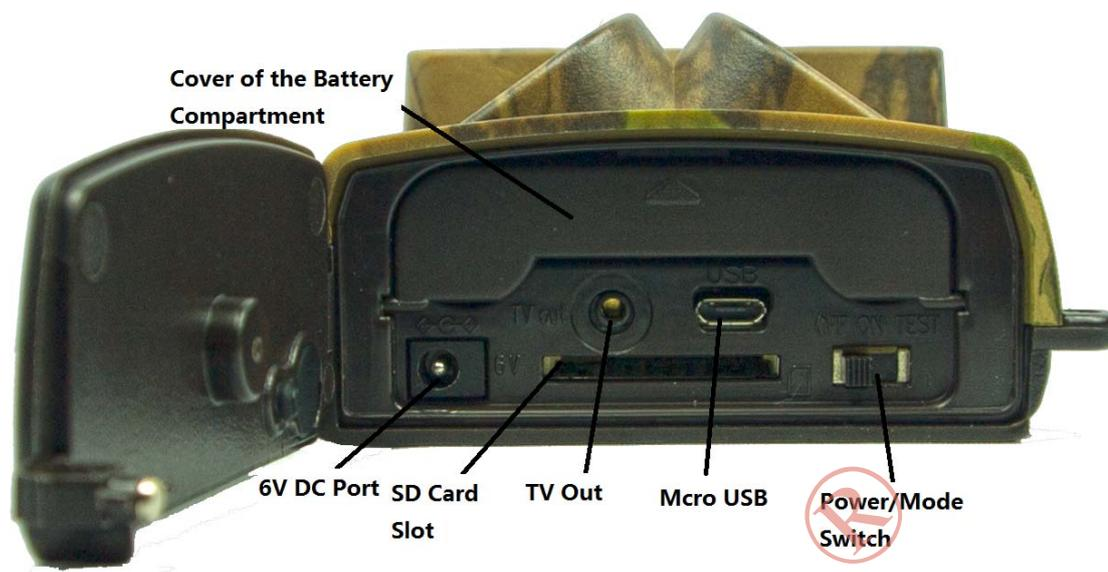

Figure 1.2: Bottom view of Ltl- 5610A
- Figure 1.2: Bottom view of the camera (Part # Ltl- 5610A)